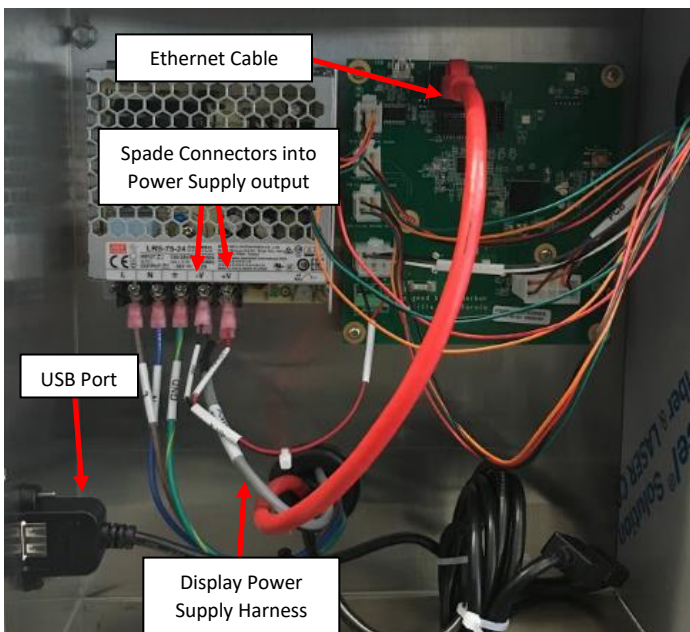
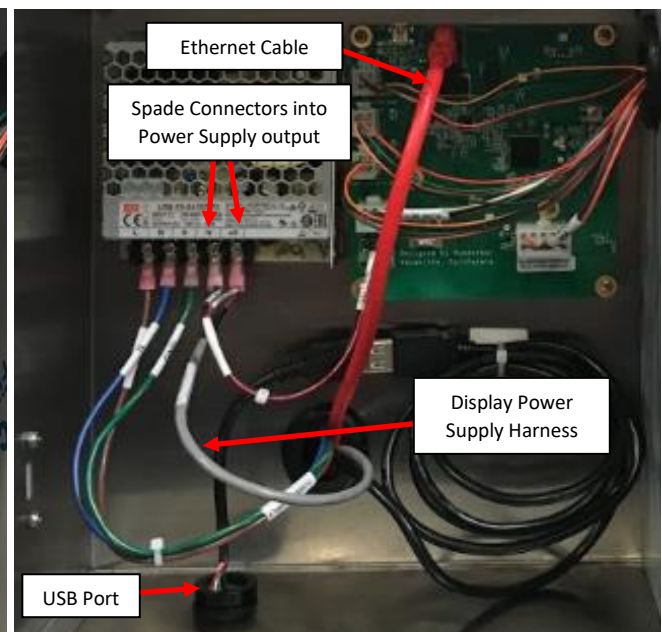

Figure 3a: Electrical Compartment- Old USB Location.
Figure 3b: Electrical Compartment- New USB Location.
- If there is no power, then remove the Rear Enclosure Panel and check the Power Supply to ensure the Spade Connectors at the end of the Display Power Supply Harness is screwed into the Power Supply output as seen in **Figure 3a** and **Figure 3b**. Refer to **Appendix C: JoeTap NITCOM Wiring Diagram** for full wiring diagram. If loose or disconnected, reconnect and power the unit to see if the screen is turning on.